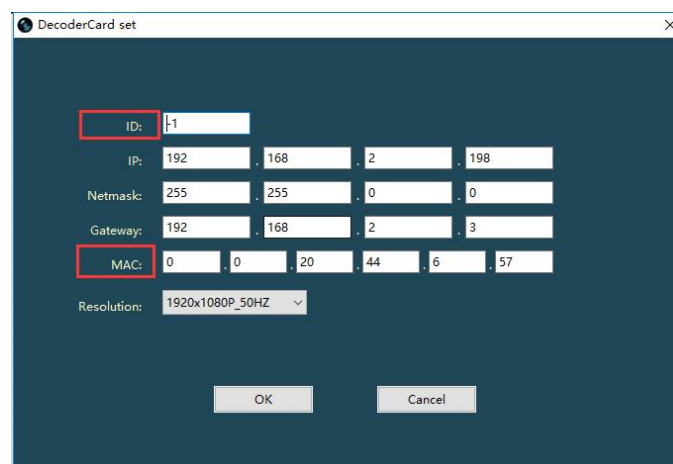

Figure 3.7
- "Search for devices": click this button and then the IP of all online devices in the current LAN will be displayed in the list on the right. Double-click the IP that needs to be modified, and the device information interface in FIG. 3.7 pops up. Device ID and IP can be modified. (the ID of the unconnected device is -1, and the host ID is 0, starting from 1).